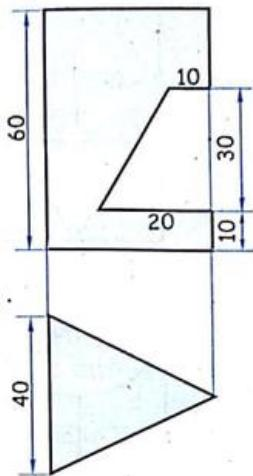

FIG. 12.67
8. Figure 12.67 is the F.V. and T.V. of triangular prism with semi-trapezoidal slot as shown. Draw the D.L.S. of prism.